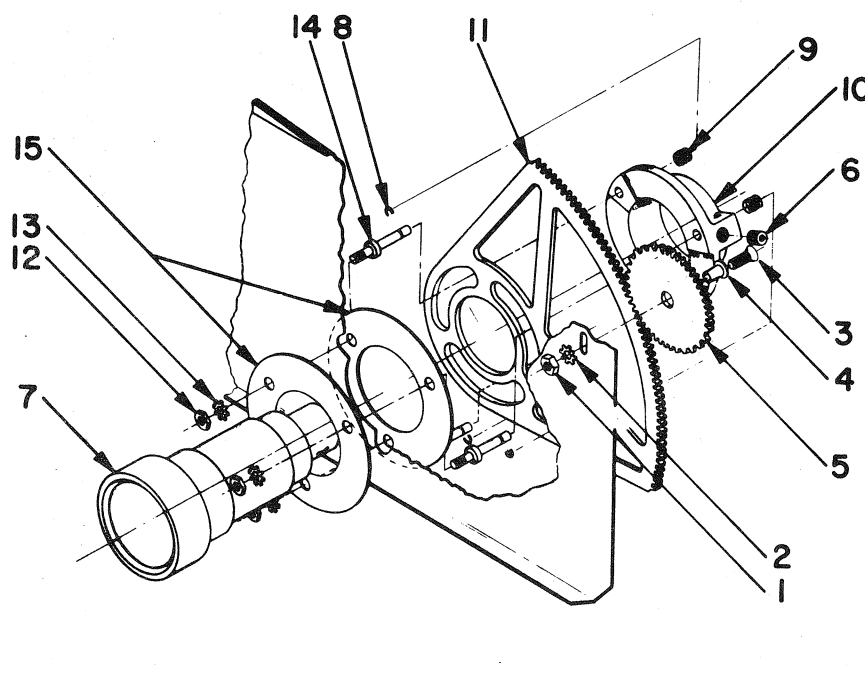

Figure 4-4 Variable Focus Assembly
4.32 VARIABLE FOCUS ASSEMBLY (Refer to Figure 4-4)
- 4.36 Non-Quadrant Focusing (Refer to Figure 4-4).